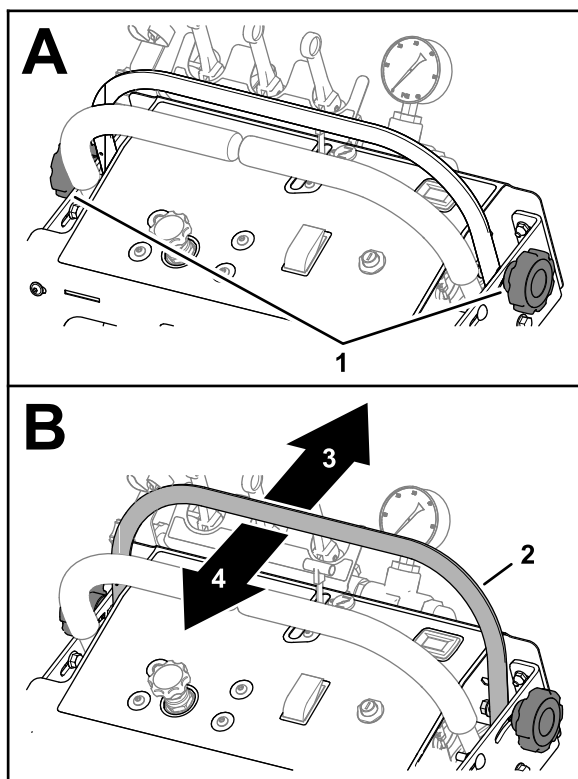

**Figure 94**
2. While holding the eye bolt from rotating, tighten the locknut until the thread length after the adjustment is 32 mm (1-1/4 inches) as shown in Figure 94.